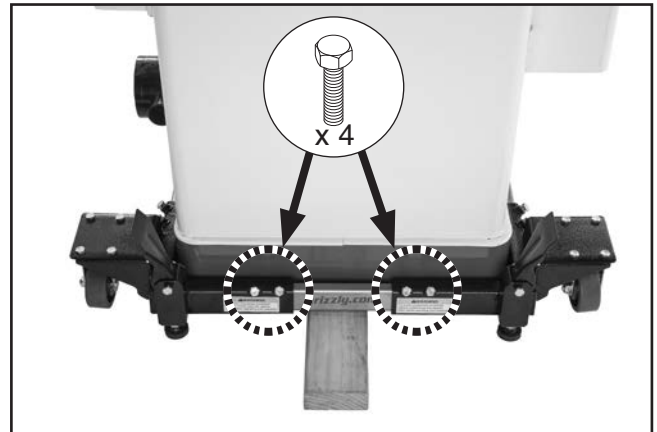

Figure 18. Remaining rail-bracket assembly secured.
- Secure rail to rear brackets with (4) M8-1.25 x 16 hex bolts, as shown in **Figure 18**.